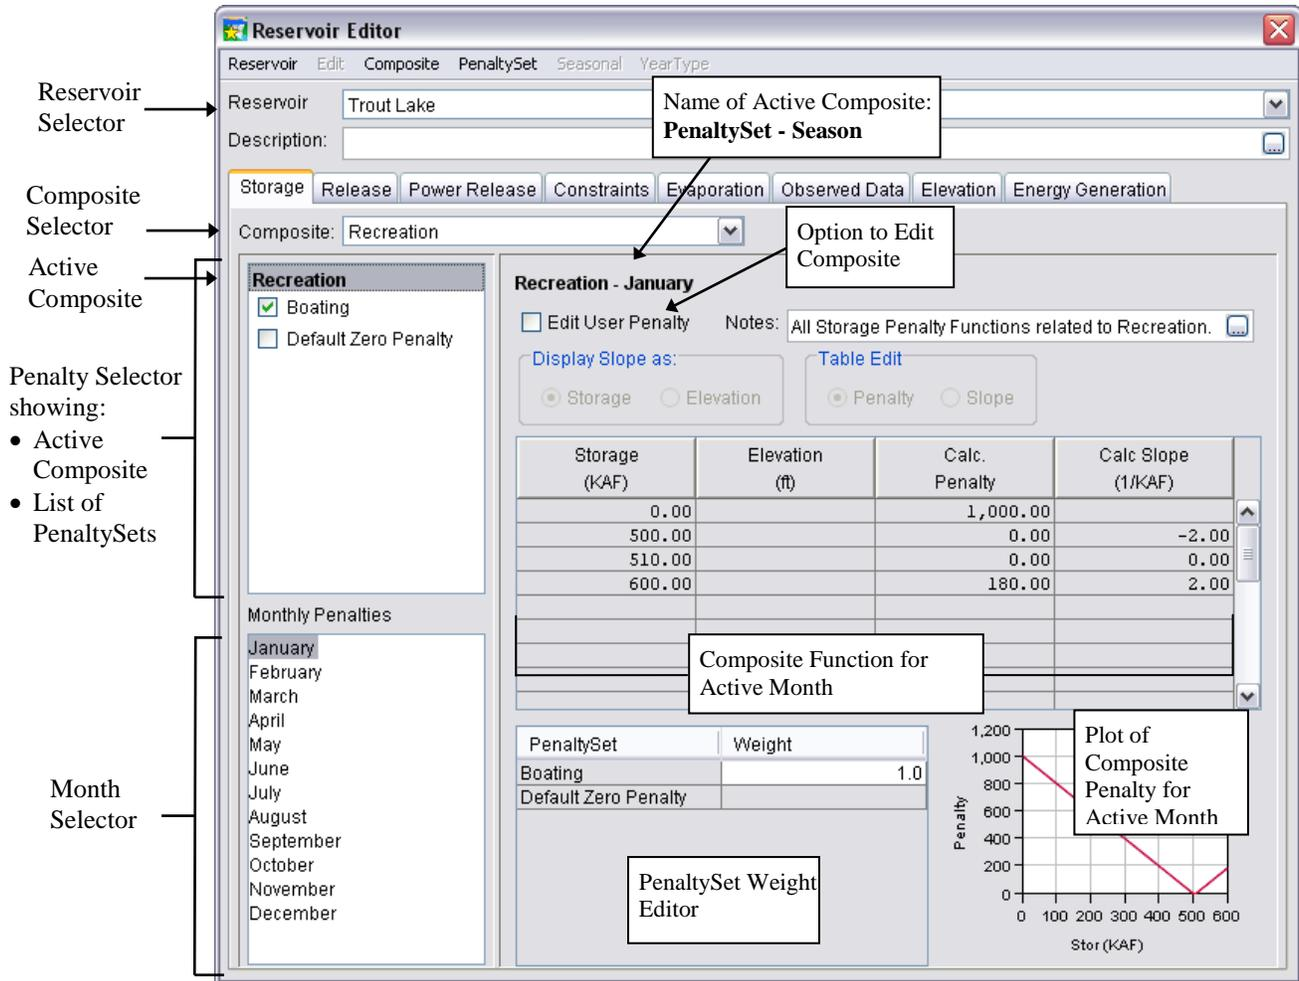

Figure 29: Storage tab of the Reservoir Editor with the Composite Penalty Function “Recreation” active.
PenaltySets are created on the Storage, Release, and/or Power Release tabs of the **Reservoir Editor**. Figure 29 shows the layout of the storage tab of the reservoir editor with an active Composite. The **Reservoir Selector** allows you to quickly switch between editing different reservoirs without having to select them from the map.
- **Construct a Composite Storage Penalty Curve.** With the reservoir tool  or the arrow tool selected, right click on the desired reservoir and select **Edit Reservoir Properties**. Select the **Storage** tab in the **Reservoir Editor** (Figure 29). In the Demo example we will first add a recreation penalty function to the “Trout Lake” reservoir.